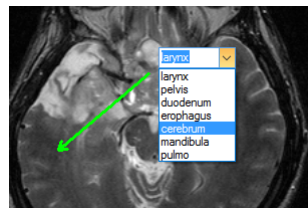

Figure 192 – Assigning a label to the measurement
2. An edit box is then displayed near the measurement (see Figure 192). To speed up the entry of the most frequently used labels, a combo box is available containing up to 20 of the most recently used labels (sorted chronologically) for each measurement type. You can select any of these recently used labels or edit one to create a new label.